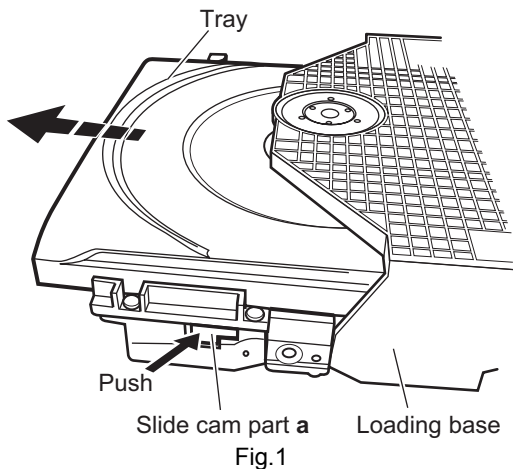
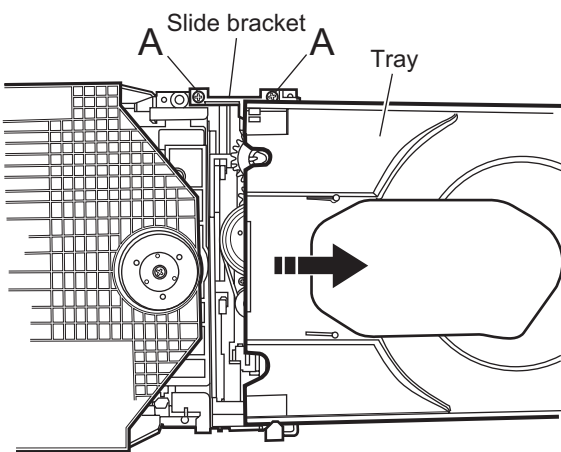

Fig.1
Fig.2
3.2.1 Removing the tray (See Figure 1, Figure 2, Figure 3, Figure 4, Figure 5, Figure 6)
- (1) Push **a** of the slide cam on the hole in the right side of the loading base by using a driver until it stops. (See Figure 1.)
- (2) The tray comes out. Pull the tray in a front direction until it stops.
- (3) Remove the two screws **A** attaching the slide bracket. (See Figure 2.)